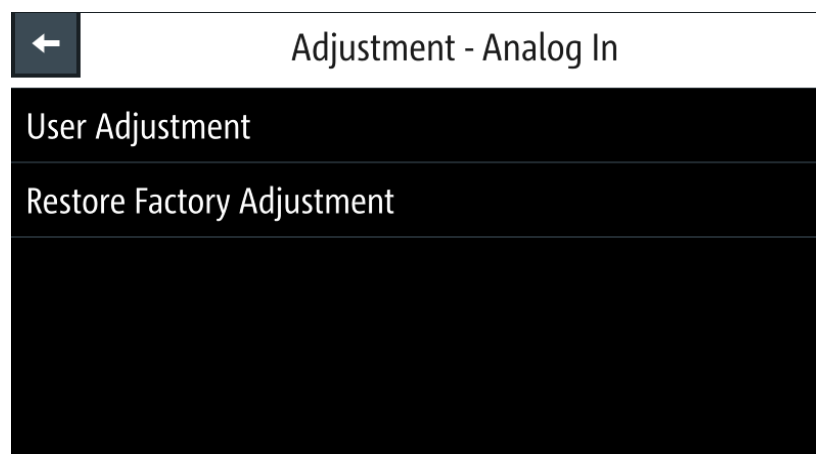

Figure 7-65: Adjustment -Analog In dialog
3. To proceed analog in adjustment, select "User Adjustment" in Figure 7-65. The R&S NGP800 displays the "ANALOG IN ADJUSTMENT" wizard to guide the adjustment procedures.